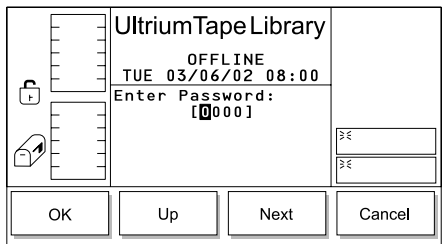

Figure 250. Enter Password Dialog
4. Press the button below the **Secure** softkey. The Enter Password Dialog displays (see Figure 250).